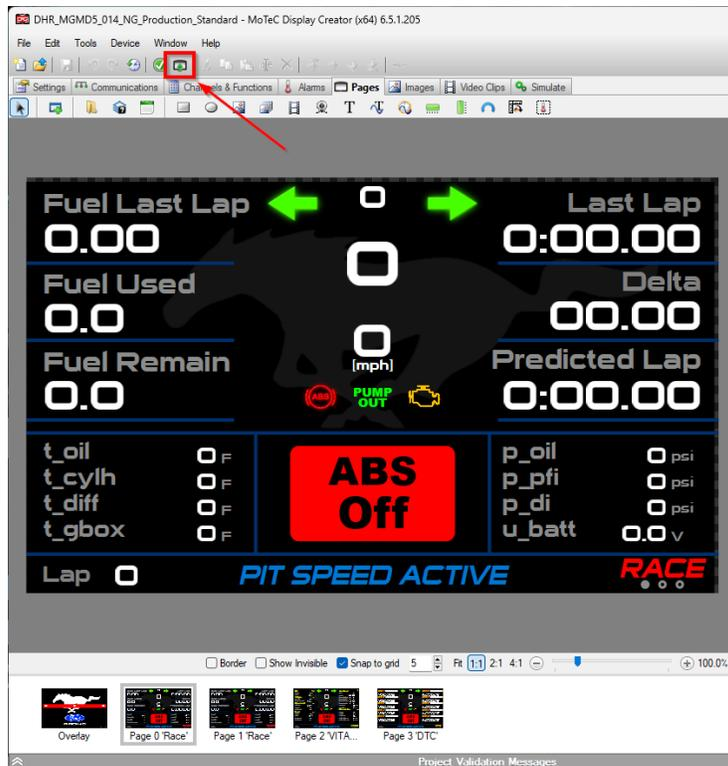

Figure 7: Display Creator – configure device.
- To flash the display onto the C187, select the “Configure Device” icon shown in Figure 7.